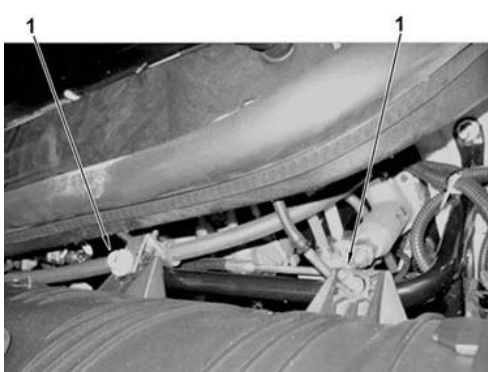

**Figure 1**
4. Remove 2 nuts that secure air cleaner to bracket (Figure 1, item 1).